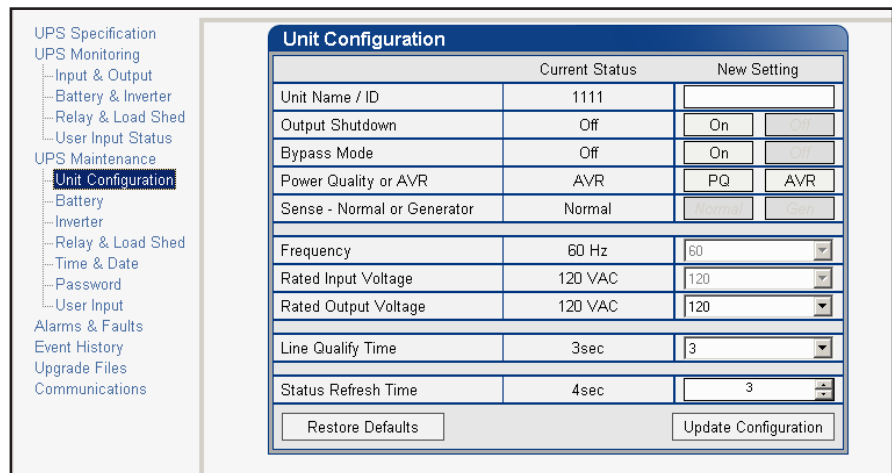

Figure 7.30 – Restore all default commnad
- RS-232 GUI – Figure 7.30 shows the **UPS Maintenance > Unit Configuration** screen. Click the **Restore Defaults** button. Enter the password to execute the command.